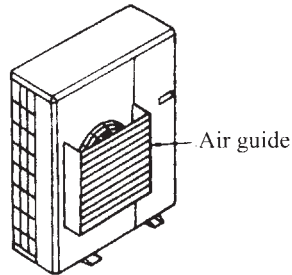

Fig. 17
3. When the outdoor unit is installed on the roof or a place where there isn't other buildings around, please do as illustrated below(see Fig. 17) to avoid strong wind blowing the air outlet directly, which may cause troubles to the unit.